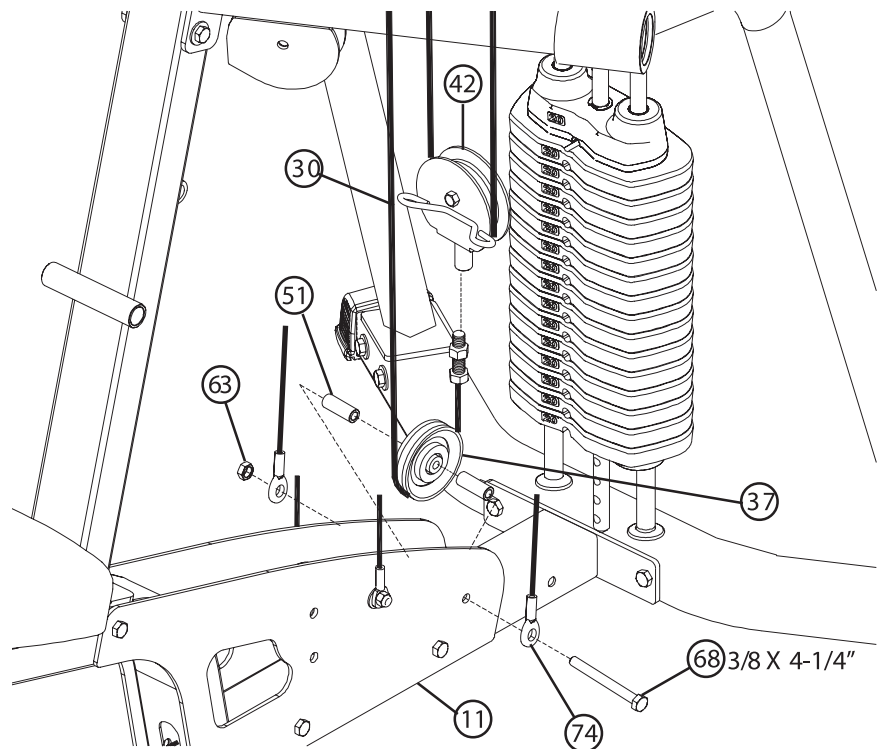

FIGURE 15
- Securely assemble one 3-1/2" PULLEY (37) and both REAR GUIDE CABLES (74) to the BASE PLATES (11), using one 3/8 x 4-1/4" SILVER BOLT (68), two 3/8 x 1" SPACERS (51) and one SILVER 3/8" LOCK NUT (63).
NOTE: Loop the LEG CABLE (30) under the PULLEY (37) before assembling the BASE PLATES (11), as shown in Figure 15.
- Adjust the Turnbuckle at the top of each REAR GUIDE CABLE (74) to add tension to the REAR GUIDE CABLES (74) until they are taut.
- Screw the threaded end of the LEG CABLE (30) into the end of the PULLEY BRACKET (42).